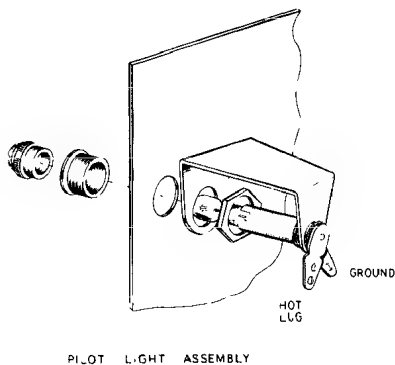

Figure 7
- ( ) Mount the pilot light in the upper right panel hole, as viewed from the front. See Figure 7 for method of mounting.